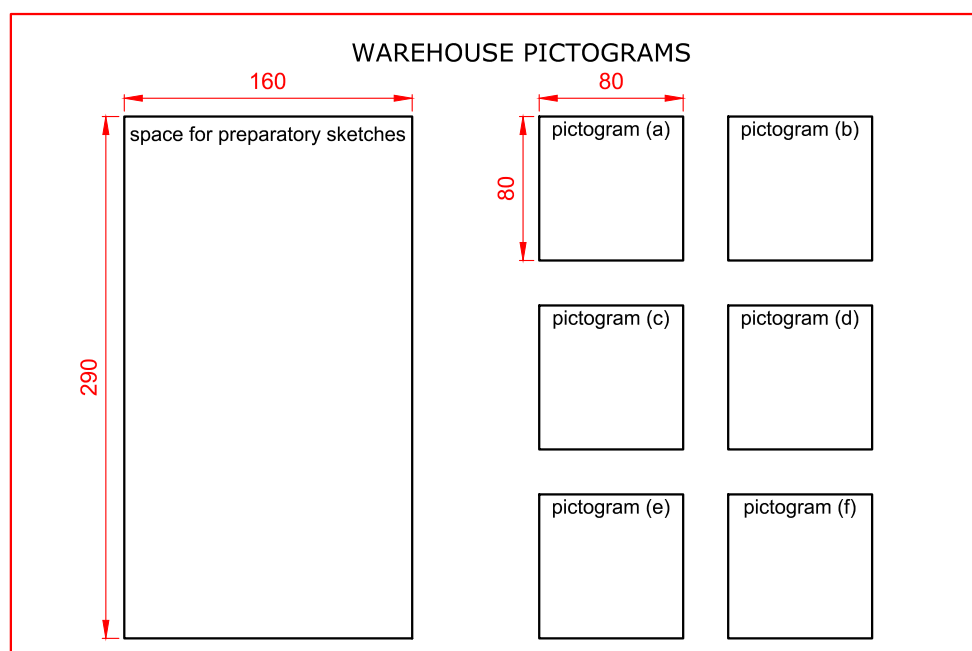

Figure 3b
- It is suggested that you divide your A2 sheet as shown in figure 3b below.